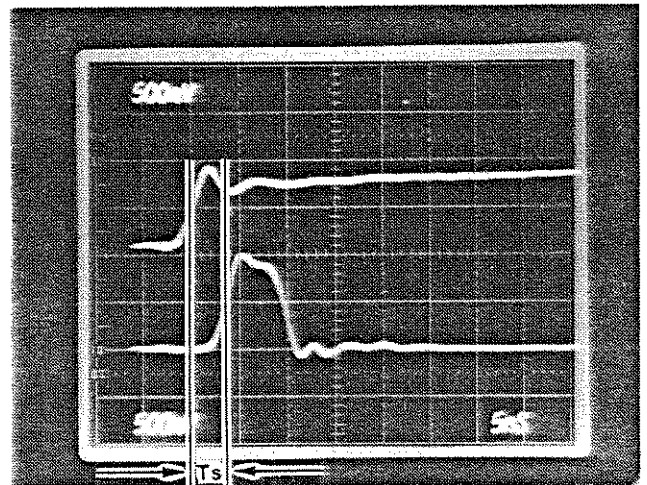

Fig. 4-11 Oscilloscope display for STRIG adjustment
- h. Move the J106 jumper on A30 to a position that obtains a T_s of $3.5 \text{ ns} \pm 1.5 \text{ ns}$ on the Oscilloscope display as shown in Figure 4-11.